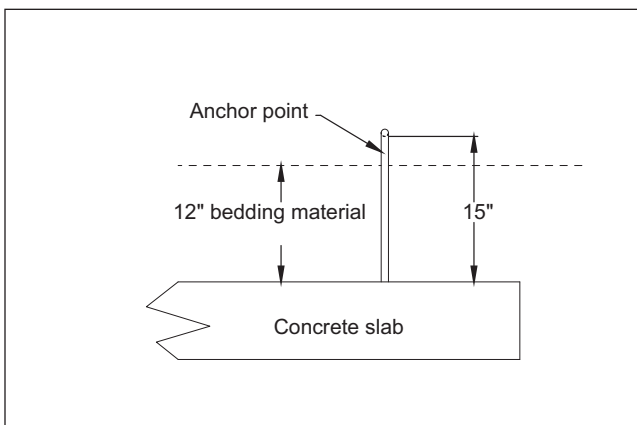

FIGURE 8-7
8.6.7. Refer to *FIGURE 8-7* for anchor-point height. Refer to *TABLE 8-1* or *TABLE 8-2* for other anchor-point dimensions.
8.6.8. When using a concrete anchor slab, allow sufficient depth in the excavation for 12 inches of bedding material between the tank and the anchor slab. See *FIGURE 8-7*.